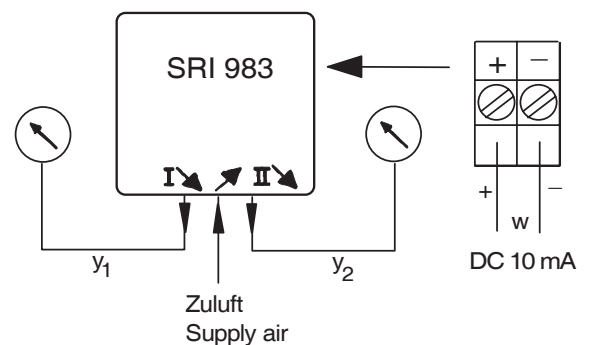

Fig. 29: Test circuit for double acting positioner
- g) Connect positioner as shown in the test circuit, fig. 29, preset supply air to 6 bar.